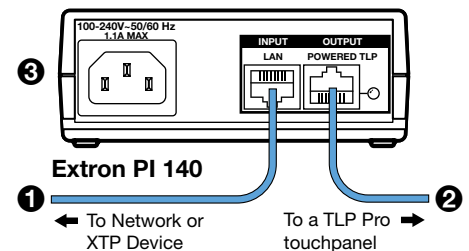

Figure 4. Connecting the Power Injector
The TLP Pro 1725MG ships with the Extron PI 140 power injector included. For the TLP Pro 1225MG and TLP Pro 1525MG, the power injector must be purchased separately. Figure 4 shows the PI 140. Your power injector may look different.
1. Connect a straight-through Ethernet cable from the power injector to a switch or router (see figure 4, ❶). This cable carries network information from the switch or router to the power supply input.
3. Connect the IEC power cord to a convenient 100 VAC to 240 VAC, 50-60 Hz power source (figure 4, ❸).